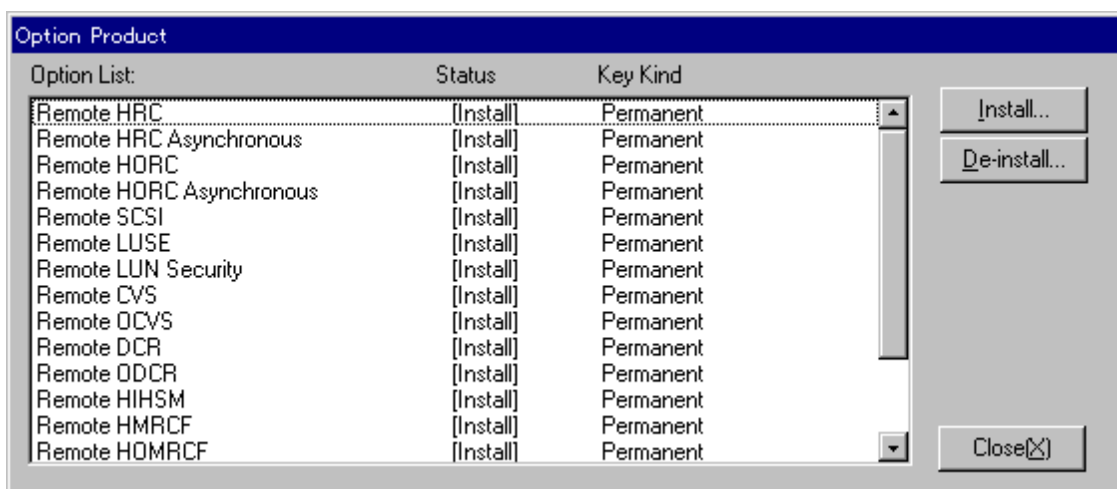

Figure 3.1 Enabling the Remote HIHSM Option
- b) Select **Option...** to open the RMCMAIN Option Product panel (see Figure 3.1).